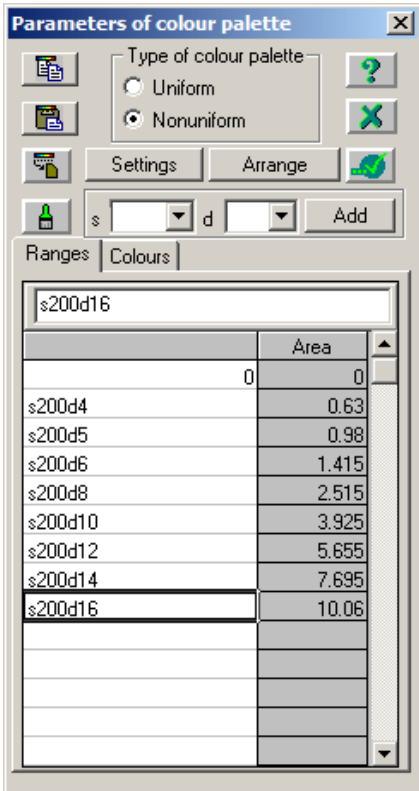

Figure 2.4.12 Parameters of colour palette dialog box
- ⇒ In the **Parameters of colour palette** dialog box (see Fig.2.4.12), do the following: